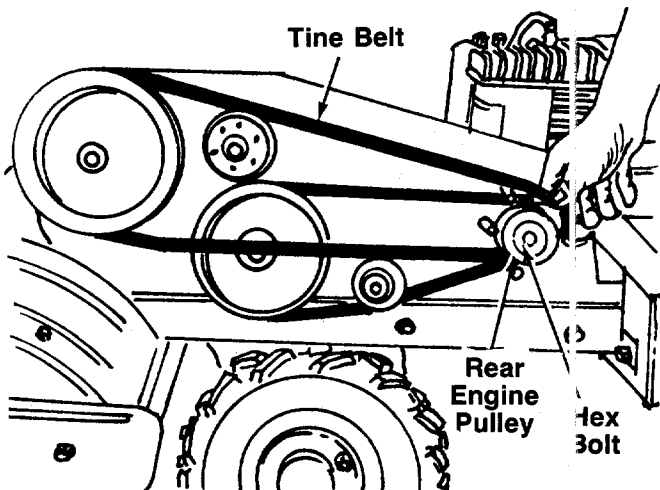

FIGURE 23.
4. Loosen, but do not remove, the hex bolt on the rear engine pulley. See figure 23.
2. Remove the hex bolt, lock washer and flat washer from the rear engine pulley. See figure 23. Slip the rear engine pulley off the engine.